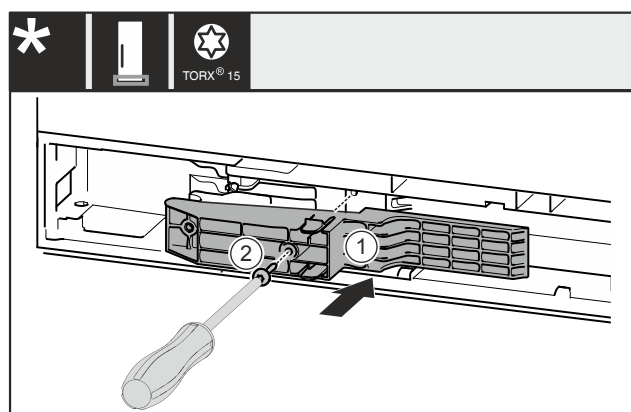

Fig. 45 *
- ▶ Insert the adapter piece Fig. 45 (1) on the handle side into the recess.*
- ▶ Tighten the screw Fig. 45 (2) with the screwdriver.*